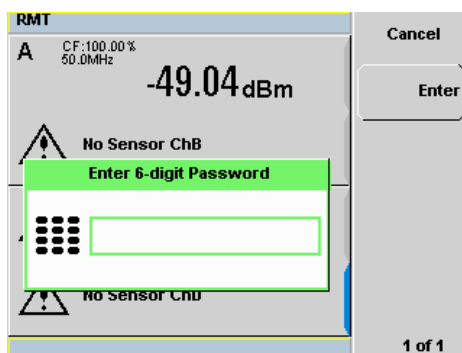
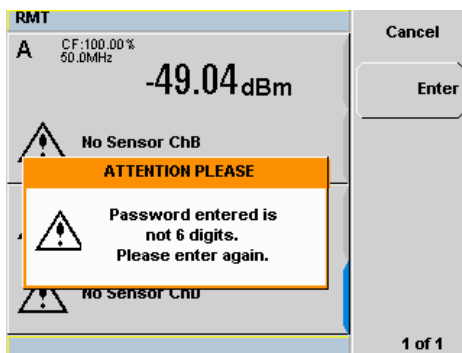

Figure 2-46 Enter 6-digit Password pop-up
Figure 2-48 Warning message
- 3 Press **Secure Blank**. The Enter 6-digit Password pop-up is displayed. You are to enter a 6-digit password upon activating the secure blank feature (see Figure 2-46).
- 5 A warning message pop-up will be displayed if the entered password is not 6-digits (see Figure 2-48). This warning will appear for two seconds before the Enter 6-digit Password pop-up (Figure 2-46) is displayed again.